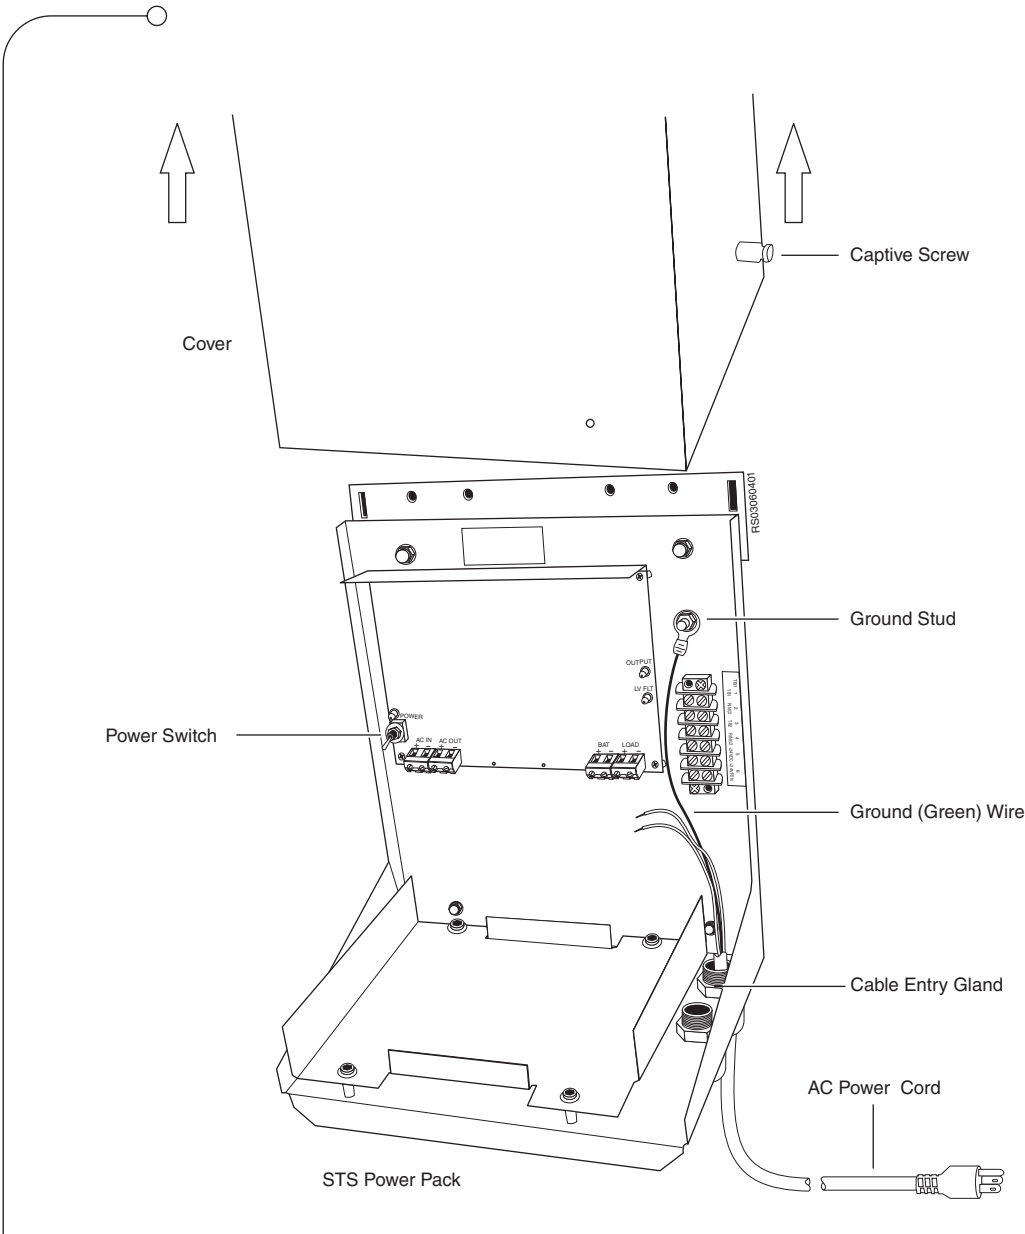

Figure 3.15 STS Power Pack Ground Connection
2. Insert the power wires (black and white) and the ground wire (green) of the AC power cord through either cable entry gland as shown in Figure 3.15 on page 55.
1. Connect the first subscriber line on the drop cable to the Tip 1 and Ring 1 connectors on TB1 as shown in Figure 3.15 on page 55.